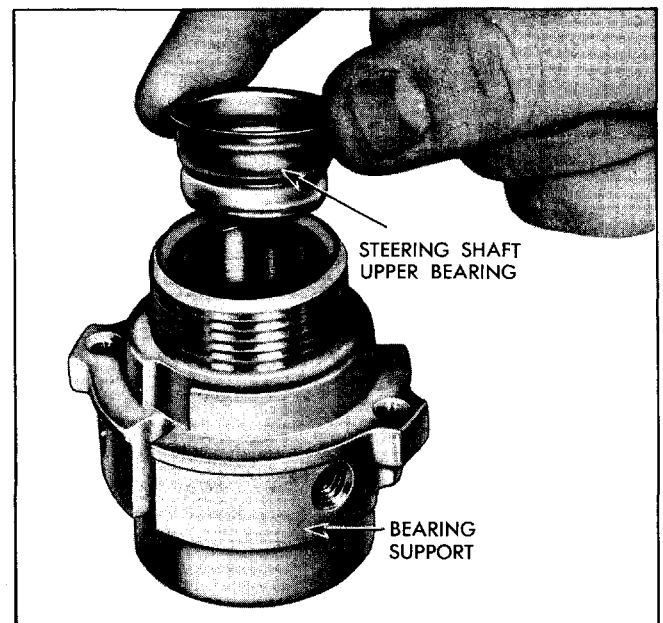

Fig. 7-14 Steering Shaft Upper Bearing
8. If standard steering shaft upper bearing was removed from bearing support, lubricate and press new bearing into support until flush (Fig. 7-14). If power steering, do not lubricate, just press plain bearing flush with counterbore.